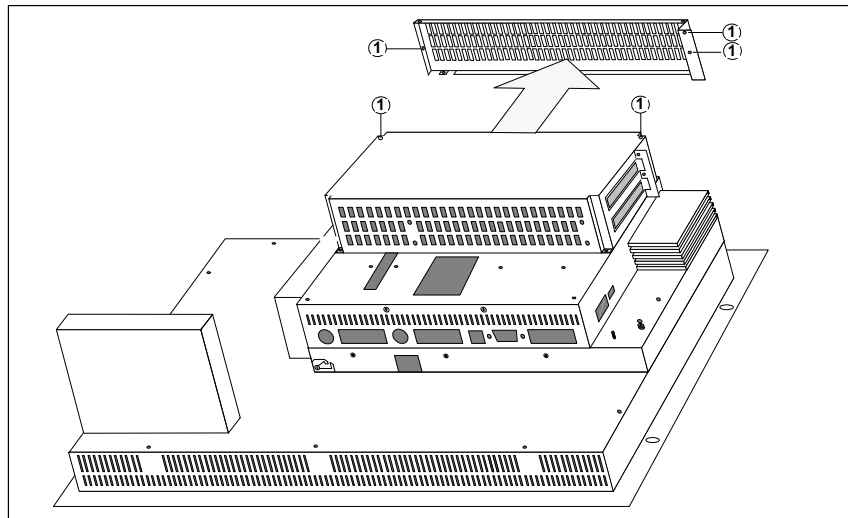

Figure 5-1 Removing the side panel
2. Release the five screws shown in Figure 5-1 with the number ①.